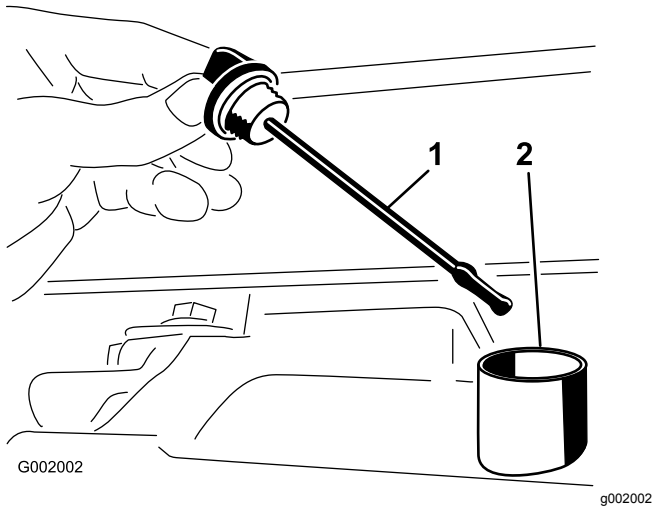

Figure 38
2. Remove the transaxle dipstick and wipe it with a clean rag (Figure 38).